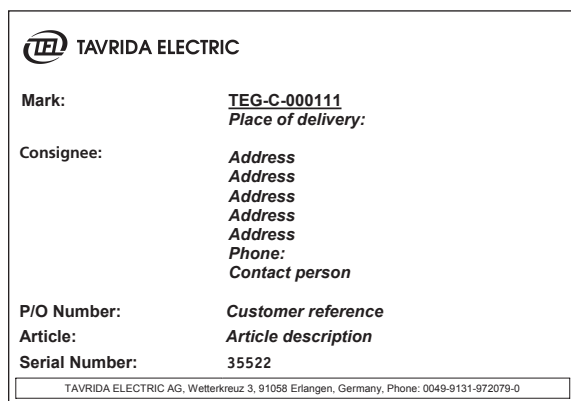

Figure 9
- Label 2 for logistics data (Figure 9)